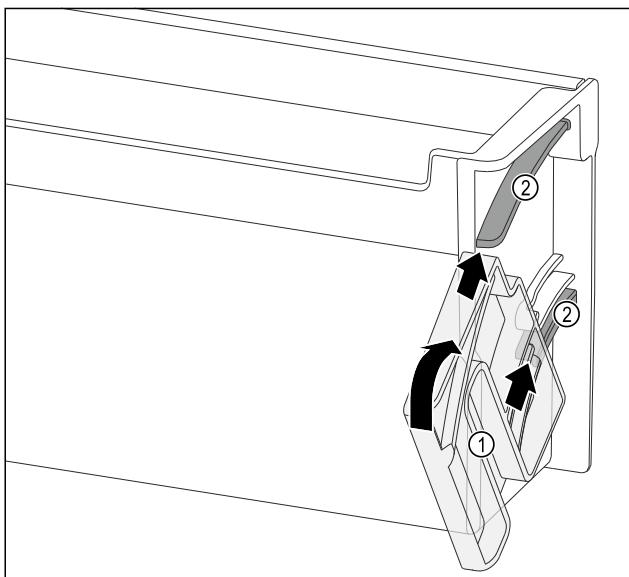

Fig. 137
- Position the turning unit Fig. 137 (1) so that the recesses are exactly opposite the guide channels Fig. 137 (2) of the door rack.
- Turn the turning unit Fig. 137 (1) towards the specified direction.